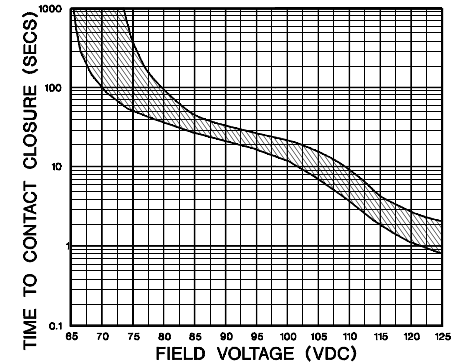

Figure 2. Inverse Time Delay Characteristic Curve
Inverse time delayed, fixed setting. Trip range from no trip at 65 Vdc to <1 second at >120 Vdc (see Figure 2 for curve).
If the regulator output voltage exceeds 65 ± 2 Vdc, the regulator automatically makes a connection across terminals A1 and A2 via an optically-isolated triac device. This occurs after a time delay which is inversely proportional to the magnitude of the regulator output over-voltage condition up to approximately 105 ± 5 Vdc (See Figure 2). Beyond this point, the field voltage is removed at a much faster rate. To avoid tripping due to the voltage provided by a separate current boost circuit, voltage measurement excludes any additional boost voltage term. The overexcitation circuit is reset by reducing the regulator input voltage to less than its buildup value for 5 seconds.
Overexcitation detection provides a single-pole solid-state contact closure across terminals A1 and A2, should the regulator output voltage exceed 65 ± 2 Vdc for a sufficient time. For voltage above 105 ± 5 Vdc, there is a second (shorter) inverse time curve. The total inverse-time-delay curve is shown in Figure 2.
- C. Overexcitation operation can be tested if the output voltage exceeds the voltage-time curve of Figure 2, using a supply and indicator taking no more than 150 mA, connected to A1, A2. Be aware that filament resistance is low when cold.